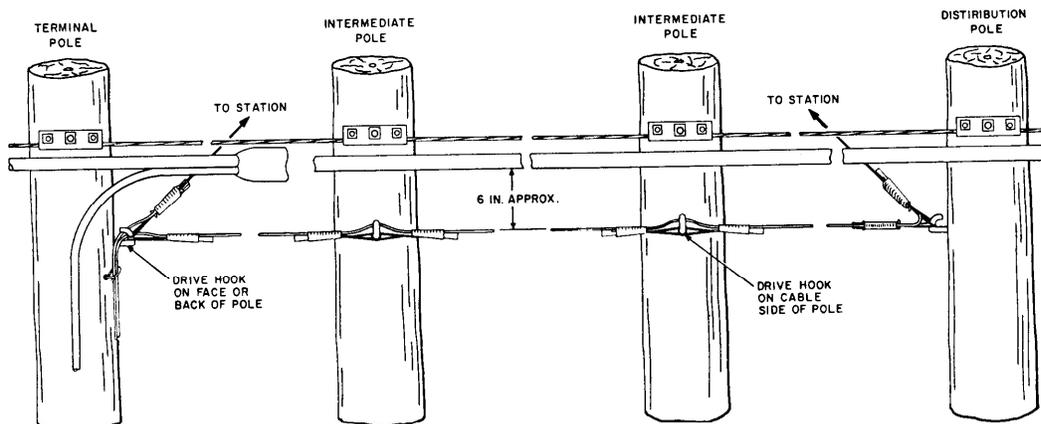

Fig. 4 - Drop Wire Run Along Lead Carrying Cable
3.03 Run drop wire below the cable as shown in Fig. 4.